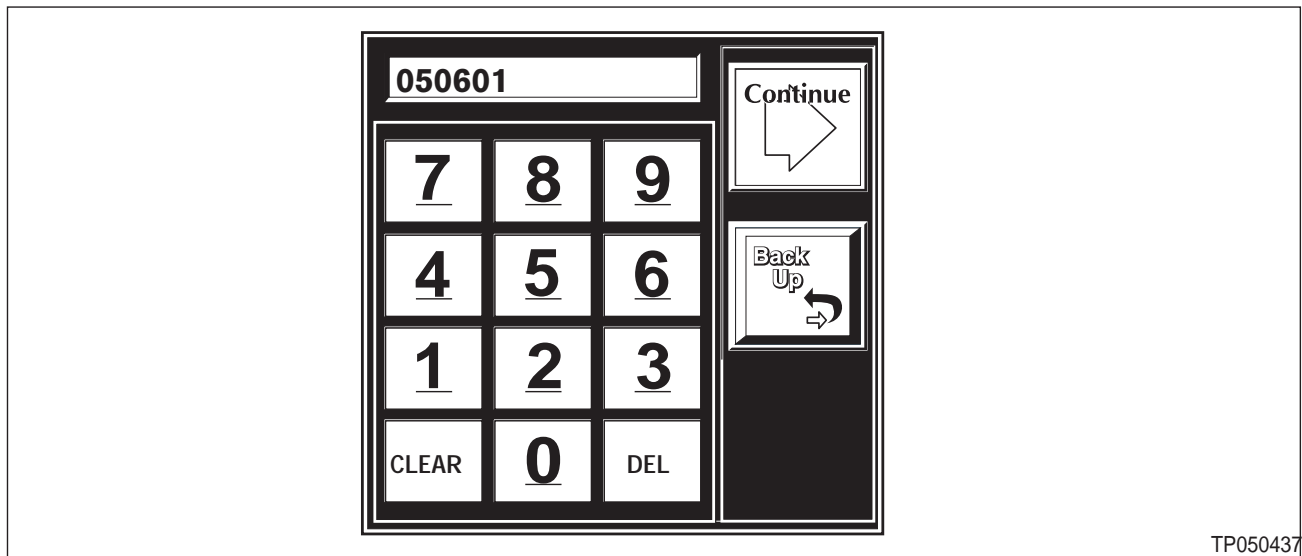

Figure 6
- b. A Keypad will appear (see Figure 6)